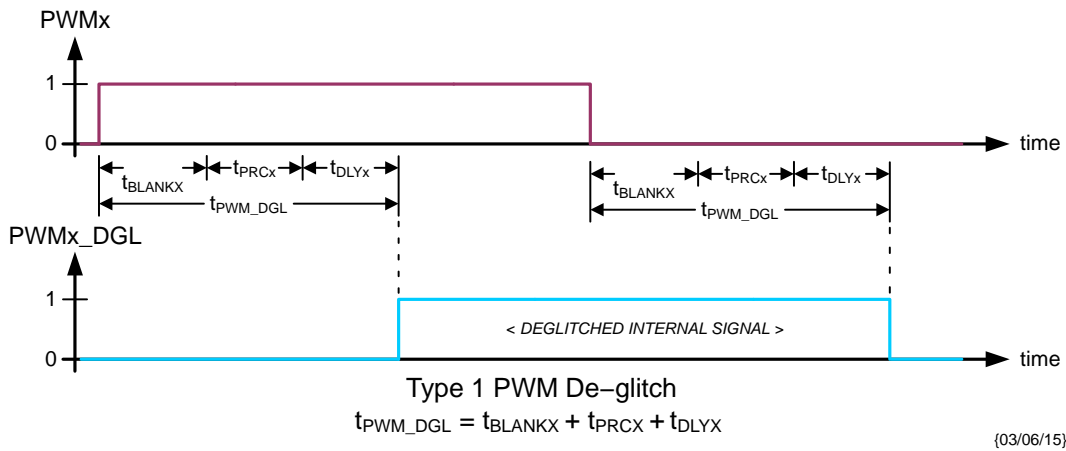
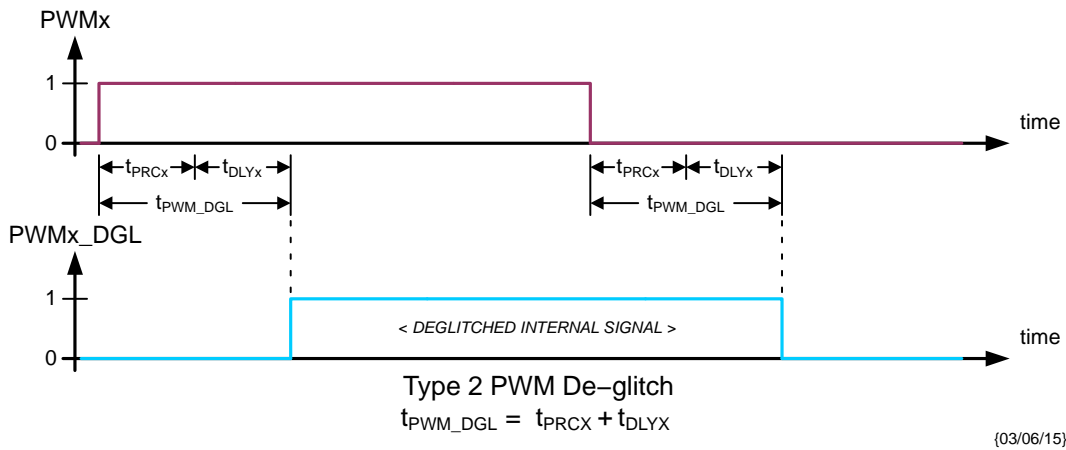
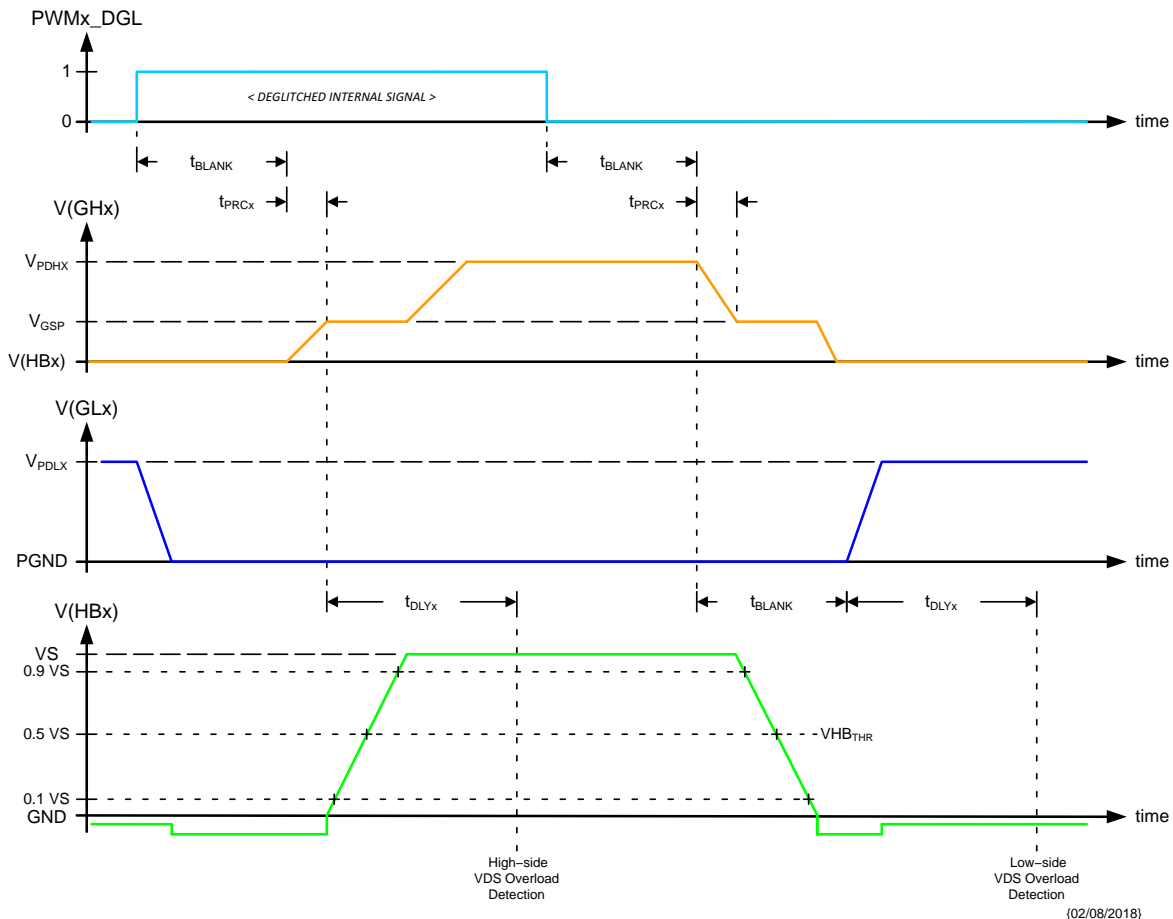

Figure 10. Type 1 PWMx Input De-glitch – CR14.DGLx = 0
Figure 11. Type 2 PWMx Input De-glitch – CR14.DGLx = 1
Figure 12. HBx Output Switching in Half-Bridge Configuration
When multiple PWMx inputs are needed to be active, the scheduled PWM signals should be offset in time to avoid degradation of the VDS overload detection due to crosstalk (see § *Overload Protection*). The minimum offset should be based on the tPWM\_DGL times appropriate for the respective channels (see § *Switching Behavior of Half-bridge Drivers*, Figure 10 and Figure 11).
- adaptive PWM input de-glitch construction when in half-bridge configuration is selected by DGLx[6:0] bits (see Figure 10, Figure 11, Table 21 and Table 22).
In order to not overload the charge pump circuit in case of loss of VS or in case of a disconnected security switch, the steady state output current of the high-side gate drivers is limited to  $I_{GHX\_SS}$  after  $t_{TIMEOUT}$  (see  $I(GHx)$  in Figure 12 and § *Electrical Characteristics: Half-Bridge Pre-Driver Outputs*).
When operating in PWM mode, type 1 de-glitch is selected when CR14.DGLx = 0 (see Figure 10) and the adapted time is given by:
Type 2 de-glitch is selected when CR14.DGLx = 1 (see Figure 11) and the adapted time is given by:
When operating in PWM mode, the timing of the gate drivers is according to Figure 12.
- the  $PWMx\_DGL$  resulting from the channel's operating configuration (see § *Switching Behavior of Half-bridge Drivers*, Figure 10 and Figure 11);
The appropriate latch is set (after the adapted  $t_{PWM\_DGL}$  – see Figure 10 and Figure 11) at the start of the switch activation (see V(HBx) in Figure 12). In the case of the high-side MOS, the delay time  $t_{DLYX}$  is started at the end of the pre-charge time ( $t_{PRCX}$ ). In the case of the low-side MOS, the delay time  $t_{DLYX}$  is started concurrent with the GLx turn-on current (see I(GLx) in Figure 11). At the end of time  $t_{DLYX}$  the switching node voltage is compared with the appropriate  $VDS_{THR\_R}$  or  $VDS_{THR\_F}$  overload detection threshold (see § *Electrical Characteristics: Half-Bridge Diagnostics*).